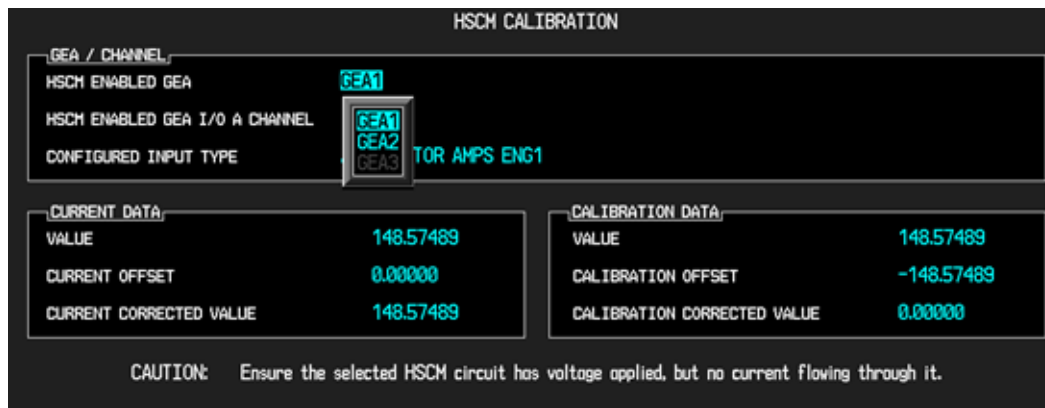

Figure 7-7. HSCM Enabled GEA Selection Box
- c) Select the appropriate GEA from the HSCM ENABLED GEA selection box (see Figure 7-7).